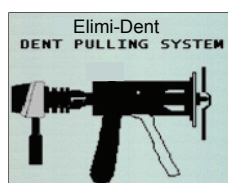

Figure 6.6 Selecting Elimi-Dent weld mode
1. Push the Single-Sided weld mode button (*fig 6.3*). Single Sided Weld Programs will display on the screen (*fig. 6.5*). The Spectrum software defaults to Single Spot Weld Mode (*fig. 6.6*).
1. Push the Single-Sided weld mode button (*fig 6.3*). Single Sided Weld Programs will display on the screen (*fig. 6.5*). The Stingray software defaults to Single Spot Weld Mode (*fig. 6.6*).
1. Push the Single-Sided weld mode button (fig 6.3). Single Sided Weld Programs will display on the screen (fig. 6.5). The Spectrum software defaults to Single Spot Weld Mode (fig. 6.6).
2. Select Elimi-Dent Welding Program by pressing the Left or Right Navigation Buttons (fig. 4.9). Make sure that Elimi-Dent Welding graphic appears on the screen (fig. 6.6)